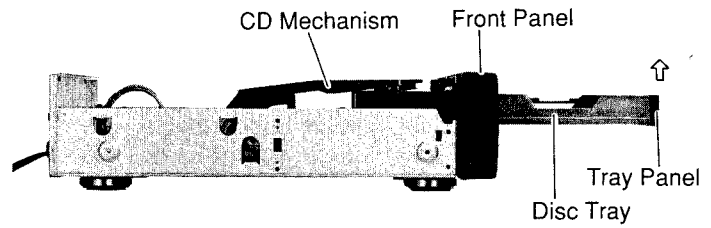

Figure 1
- (1) After removal of the top cover, open the disc tray as shown in Figure 1.
- (2) Remove the tray panel in the arrow direction as shown in Figure 1.